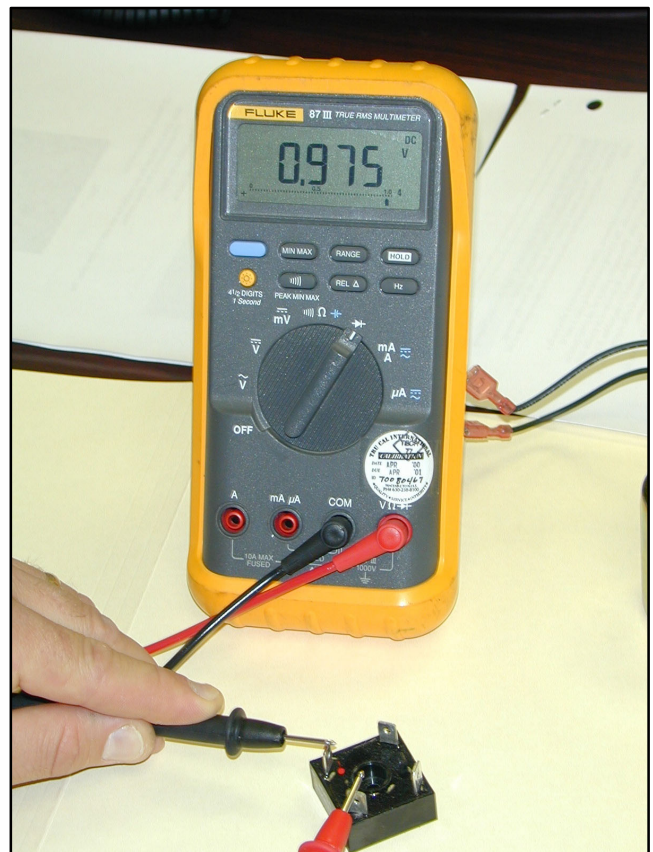

Figure 7-65 Checking Diode Operation of Rectifier
8. Check the diode operation of the rectifier. See Figure 7-65 and Section 5.8.4 for rectifier test instructions. If the rectifier is good, go to step 11. If the rectifier is bad, continue on.